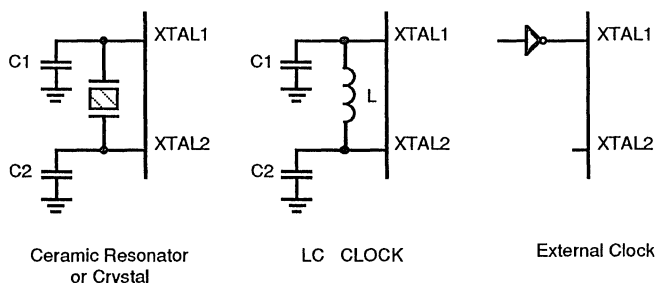

Figure 20. Oscillator Configuration
The Z86C93 on-chip oscillator has a high-gain, parallel-resonant amplifier for connection to a crystal, LC, ceramic resonator, or any suitable external clock source (XTAL1=Input, XTAL2=Output). The external clock levels are not TTL. The crystal should be AT cut, 1 MHz to 20 MHz max, and series resistance (RS) is less than or equal to 100 Ohms. The crystal should be connected across XTAL1 and XTAL2 using the recommended capacitors (10 pF < CL < 100 pF) from each pin to ground (Figure 20).